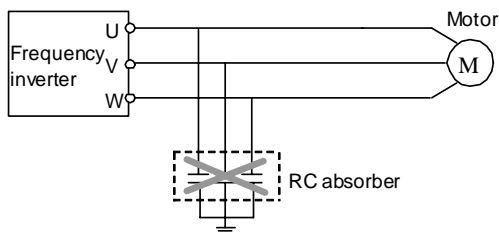

Figure 4-1 Schematic Diagram Of RC Absorbers Shall Not Be Connected At Output End.
- Absorption capacitor or other RC absorbers shall not be installed at U, V and W output end of the frequency inverter, as shown in figure 4-1.